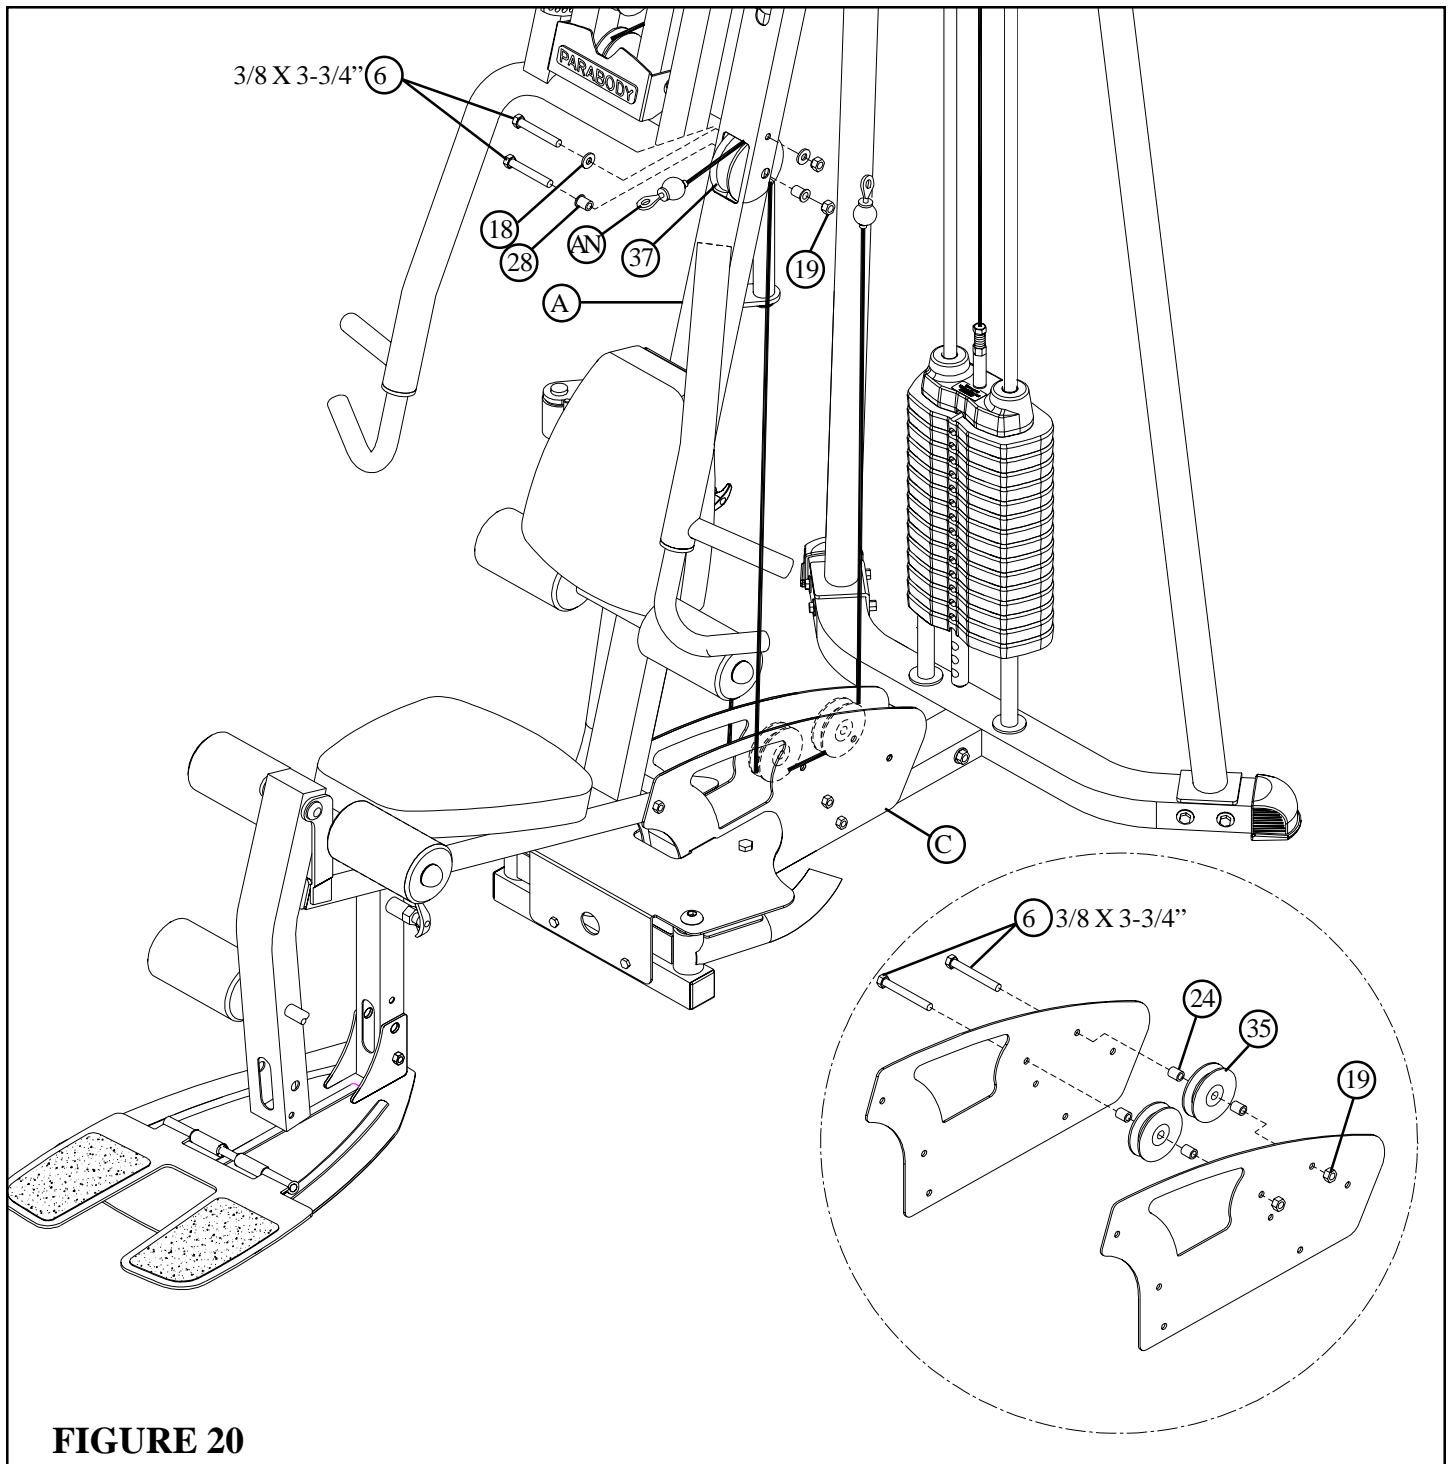

**FIGURE 19**
- Screw the threaded end of the GUIDE CABLE (AO) into the end of the FLOATING PULLEY BRACKET (Z). Secure the CABLE GUIDE (23) in place with the JAM NUT on the GUIDE CABLE. See FIGURE 19.
- Route the GUIDE CABLE (AO) around one 3-1/2" PULLEY (35) and assemble the PULLEY to the FLOATING PULLEY PLATES (AB) using one 3/8 X 1-3/4" BOLT (11) and one 3/8" LOCK NUT (19). See FIGURE 19. **(NOTE: Make sure the cable runs in the grooves of the pulleys.)**
- Route the hook end of the GUIDE CABLE (AO) thru the CABLE GUIDE (23) then **SECURELY** assemble the hook end of the GUIDE CABLE (AO) to the BASE using one 3/8 X 3-3/4" BOLT (6), one 3/8" WASHER (18) and one 3/8" LOCK NUT (19) as shown in FIGURE 19.